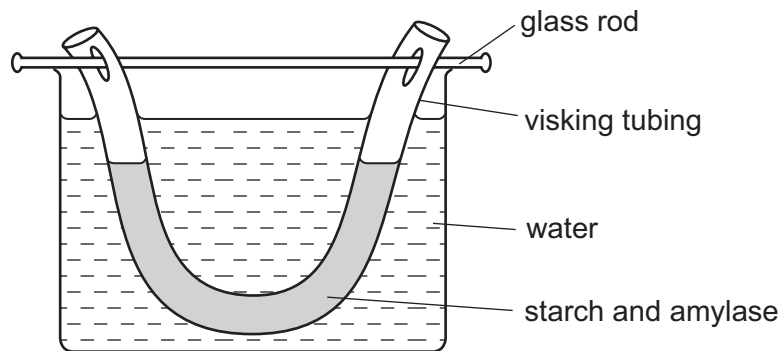

Fig. 1.1
- (i) access to apparatus set up one hour before the examination, as in Fig. 1.1 (see **note** over page)
- Insert a glass rod through the holes in the piece of visking tubing, and hang the visking tubing in a beaker of warm (30-40 °C) water, as shown in Fig. 1.1.